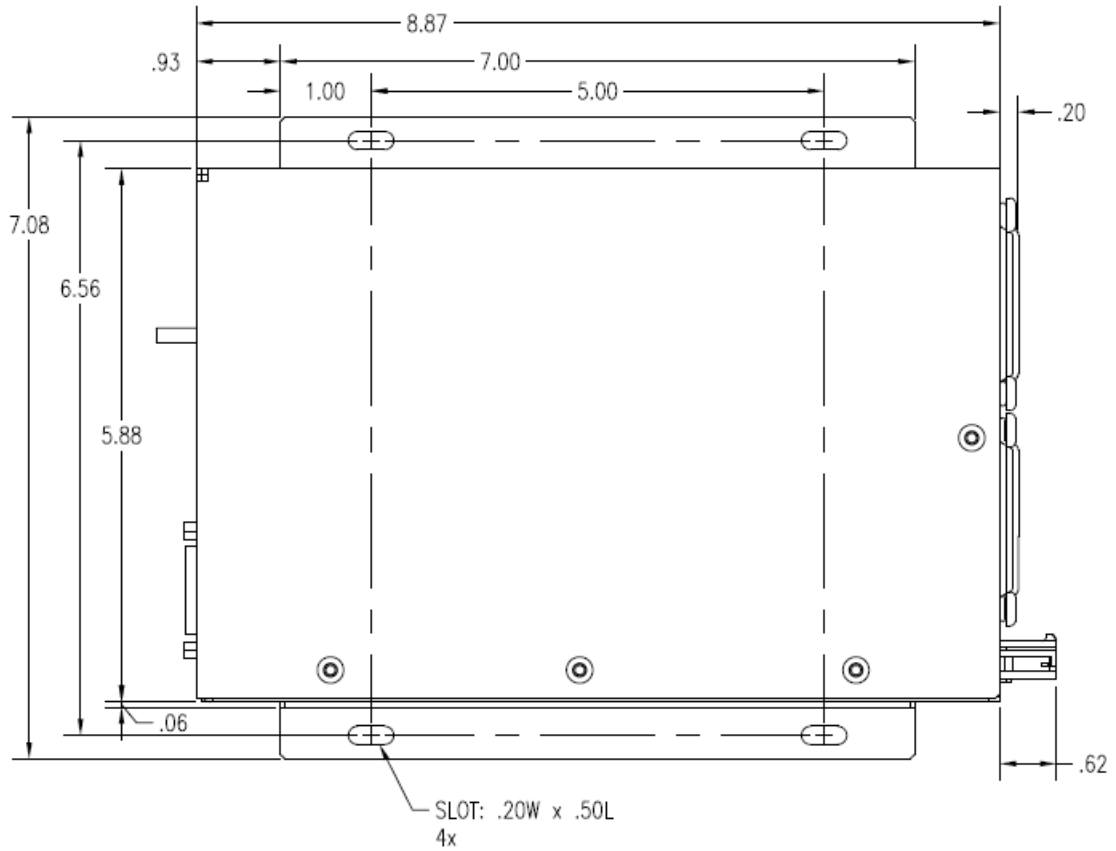
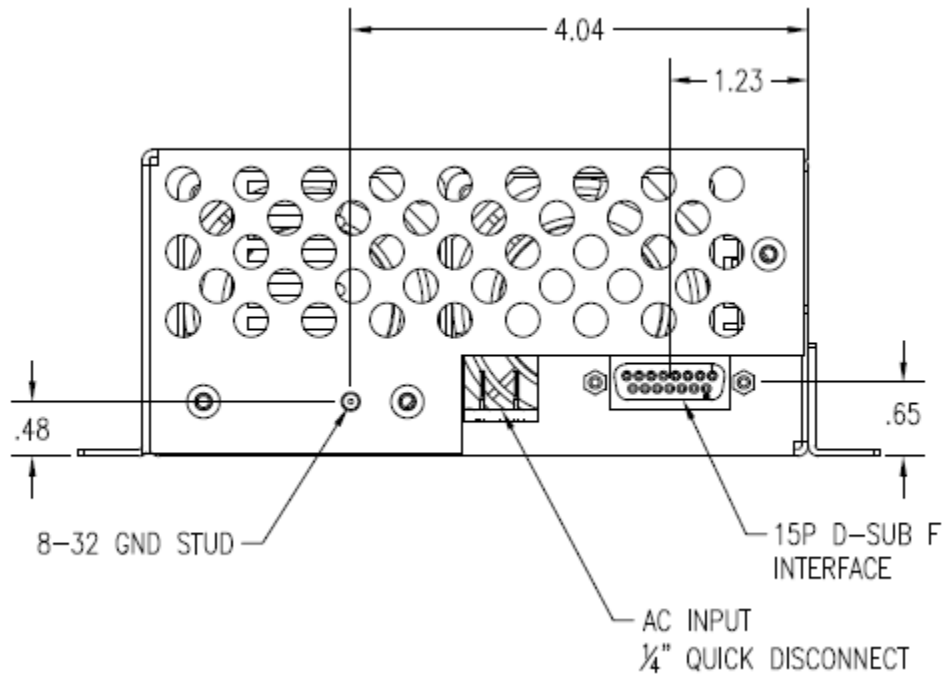

Figure 2, XLB-250 Outline
Figure 3, XLB-250 Input Connections and Outline
The XLB-650 chassis is mounted using the mounting brackets as shown in Figure 2, the XLB-650 Outline Drawing. The XLB-650 Igniter module has a mounting plate shown in Figure 3.
3. **INTERFACE CONNECTION** Connect user system to Interface 15 pin D-sub connector shown in Figure 3. (Although the user interface is typically designed by the user, Lumina Power can provide assistance necessary to modify interface program and monitor levels) See Table 1 for description of XLB-650 Interface and the associated simplified interface schematic.
- a. **AC INPUT POWER CONNECTION** Input power is as shown below in Table 2. Connect AC power connections to power supply input power terminals. Refer to Figure 3 for location of AC Input.